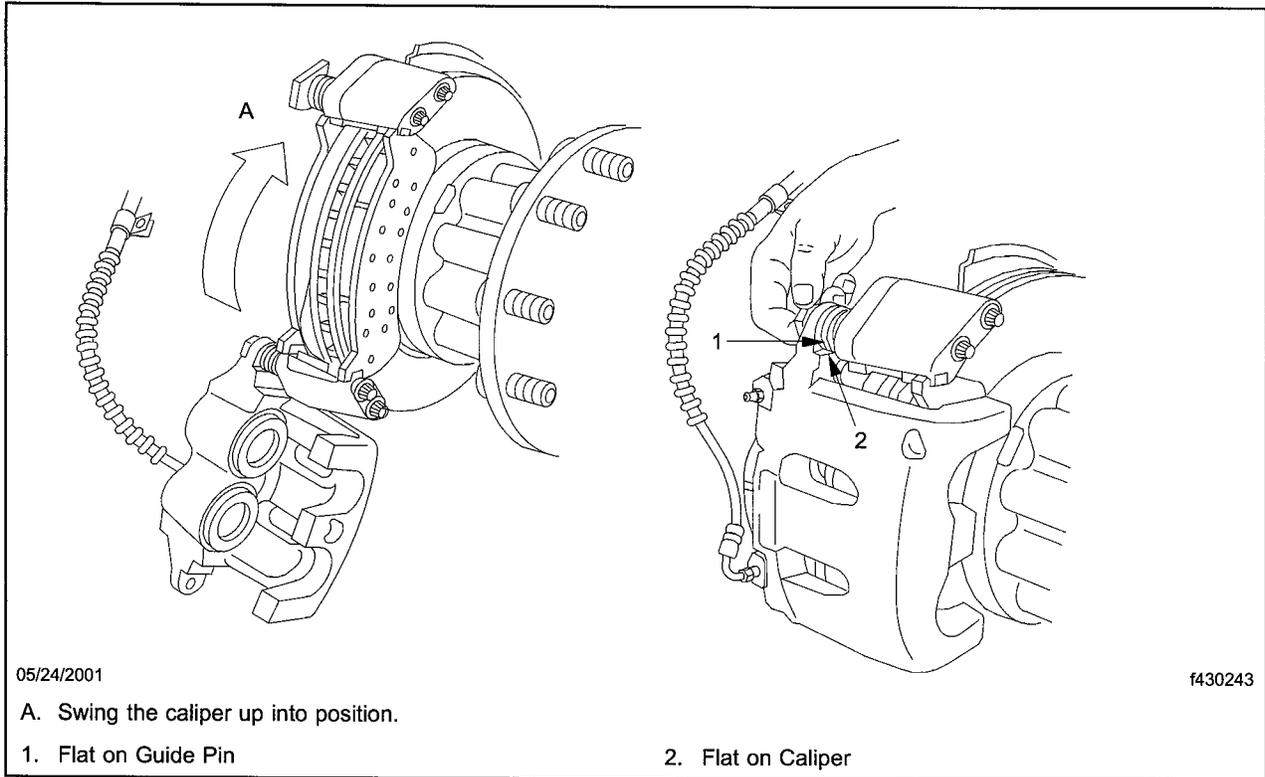

Fig. 9, Closing the Caliper Over the Brake Pads and Rotor
21. Carefully rotate the caliper closed about the lower guide pin and bolt. Do not allow the brake line hose to become pinched or kinked. Align the flat on the upper guide pin head with the flat on the caliper upper guide pin boss. See **Fig. 9**.